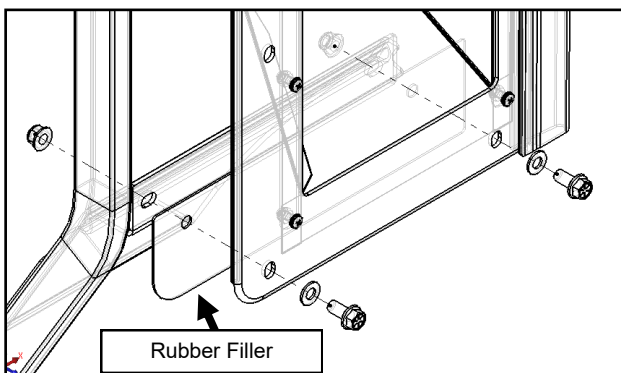

Fig. 10.2 (Rubber Filler, Right)
- 10.2 Insert the rubber filler between the bottom of the plastic cowl and the floorboard on each side. Ensure the rounded corner is oriented towards the outside of the vehicle. See Figure 10.2.